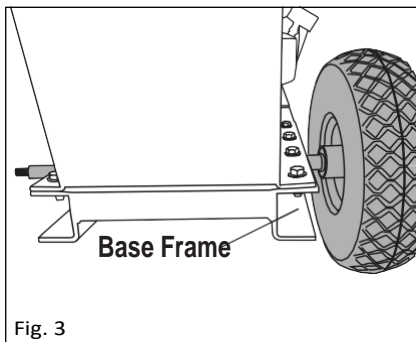

Fig. 3
- Slide the axle through the hole in the base frame (9) and out the other side (fig. 3).